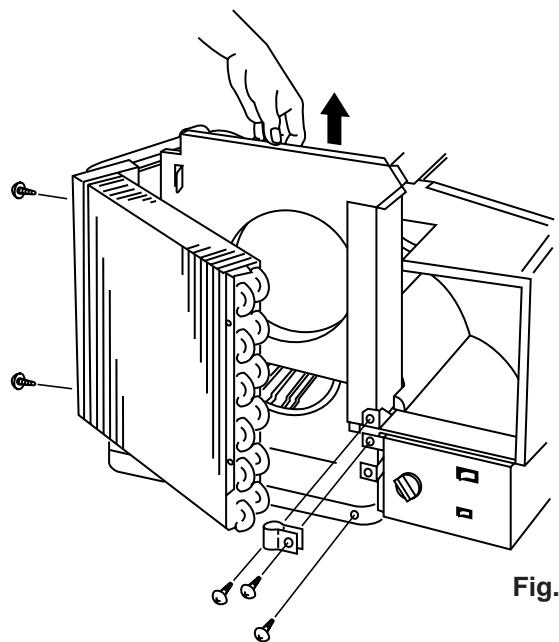

Fig. 12a
- (1) Remove the evaporator. Refer to "9-1-4. Removing Evaporator"
- (2) Remove screws holding casing plate of evaporator. (Fig. 12a)
- (3) Remove the casing plate of evaporator. (Fig. 12a)